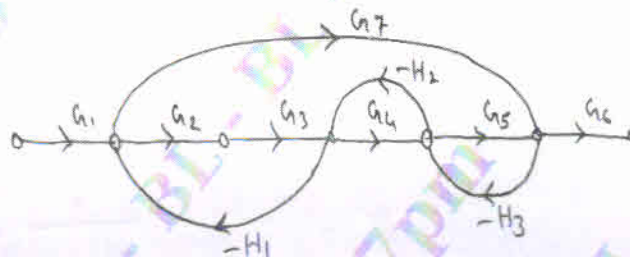

Fig. Q6 (a)
- 6 a. For the system shown in Fig. Q6 (a). Examine $\frac{C(s)}{R(s)}$ using Mason's gain formula.